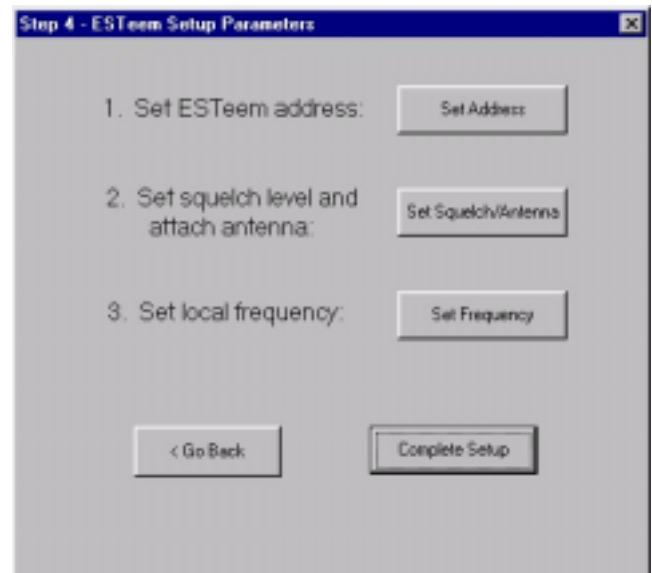

Figure 8: Step 4 – ESTeem Setup Parameters
12. Step 4 – ESTeem Setup Parameters window will be displayed (Figure 8). This step will complete the setup for your ESTeem Model 192S.